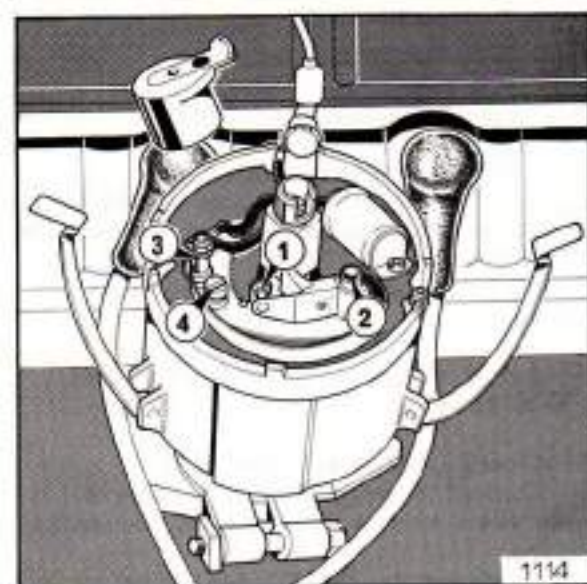

Figure 3 Contact breaker adjustment
3 Slacken the slotted head screw '4' in the contact plate (see Figure 3) and adjust until the gap is 0.38mm (0.015in).
- 2 Remove the slotted head screw securing the breaker arm and the hexagon nut securing the primary and condenser lead tags (see Figure 3).